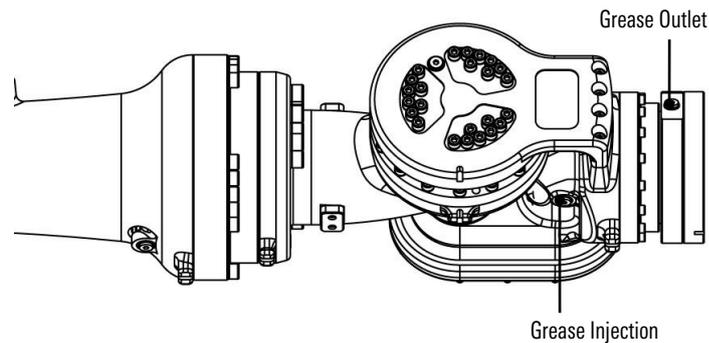

Figure 13-11 Replace the lubricating grease of J6 axis reducer and gear case
- Remove the grease outlet M10x1 plug, as shown in Figure 13-11.